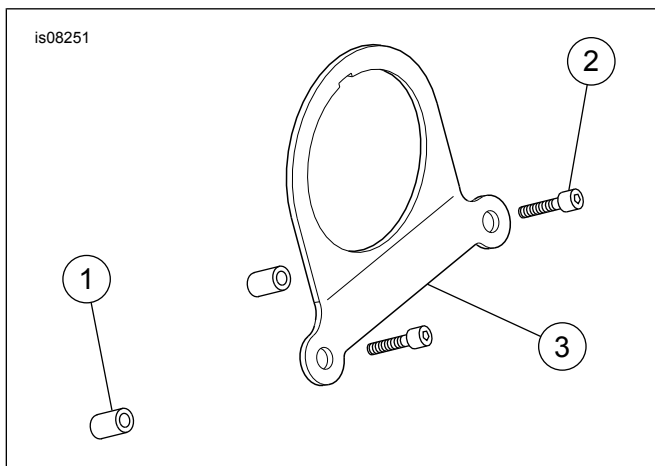

Figure 1. Service Parts
See Figure 1 and Table 3.
1. See Figure 1. Remove two handlebar clamp screws that are farthest from rider.
2. Place spacers (1) into the empty clamp screw counterbores.
3. Loosely secure tach mount (3) to handlebar clamp with the capscrews (2).